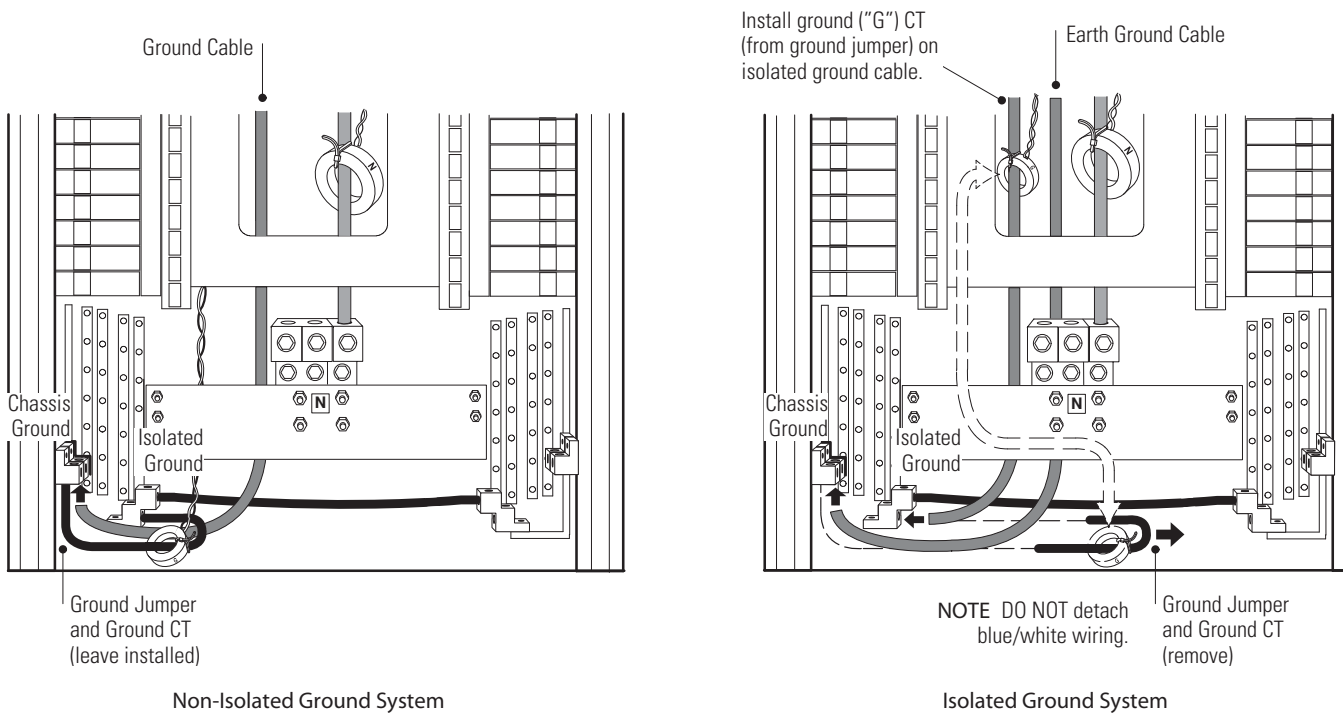

Figure 14. Installing the Ground System (Dual 800A Main Input Lug, Dual 400A Main Input Breaker, and Dual 600A Main Input Breaker)
- Dual 800A Main Input Lug, Dual 400A Main Input Breaker, and Dual 600A Main Input Breaker configurations.** The cabinet has a ground jumper installed from the chassis ground to the isolated ground busbar, with a ground CT installed on the ground jumper. Adjust the installation for the required ground system (see Figure 14, and Table 2, and Table 3 on page 12):
NOTE Figure 14 shows top entry wiring, optional neutral CTs for measured neutral current, and front access installation.